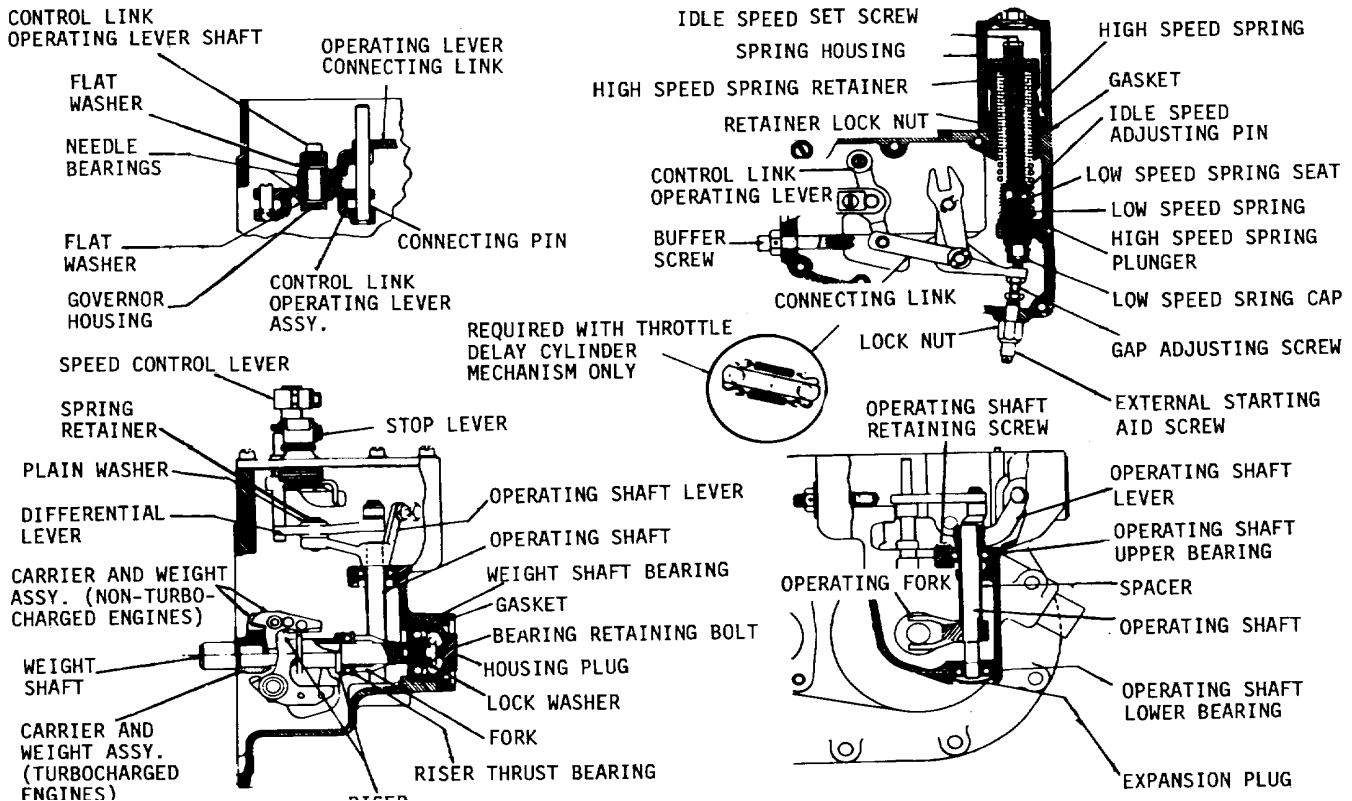
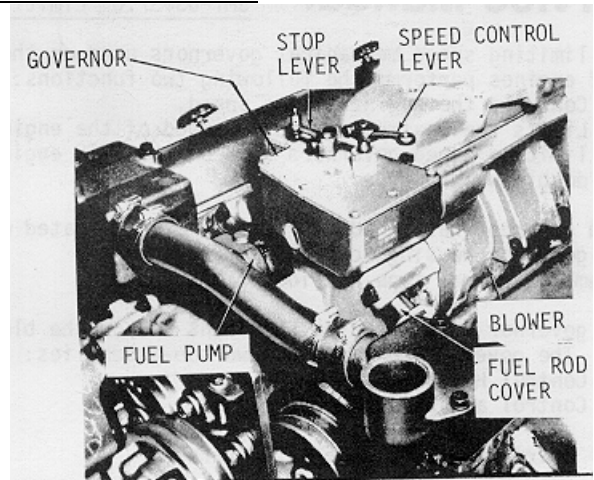

Fig. 1 Cross Section of Double Weight Limiting Speed Mechanical Governor
Fig. 2 Limiting Speed Mechanical Governor Mounting and reconditioned.
the governor housing. It has a domed end and cannot be removed from the outside of the housing (Fig. 1).
The centrifugal force of the revolving governor low and high-speed weights (Fig. 1) is converted into linear motion which is transmitted through the riser and the operating shaft to the operating shaft lever. One end of this lever operates against the high and low-speed springs through the spring cap, while the other end provides a moving fulcrum on which the differential lever pivots.
- (1) Open the drain cocks and drain the engine cooling system.
- (2) Remove any accessories attached to the cylinder head, governor or front end of the engine that interfere with the removal of the governor assembly.
- (3) Disconnect the control linkage from the speed control and stop levers (Fig. 2).
- (4) Remove the eight screws and lock washers securing the governor cover to the housing. Lift the cover and gasket from the housing.
- (5) Remove the fuel rods from the control link operating lever assembly (Fig. 1) and the injector control tube levers as follows:
- (6) Loosen the hose clamps at each end of the water bypass tube. Slide the hoses and clamps onto the bypass tube and remove the tube from the engine.
- (7) Disconnect and remove the fuel oil lines attached to the fuel pump and the crossover fuel oil line attached to each cylinder head.
- (8) Loosen the hose clamps on the fuel rod cover tube hoses next to each cylinder head and slide each hose and clamp up on the tube in the governor housing.
- (9) Note the location of the two copper, one plain and eight lock washers on the governor-to-blower bolts before removing them. Then remove the ten bolts and washers